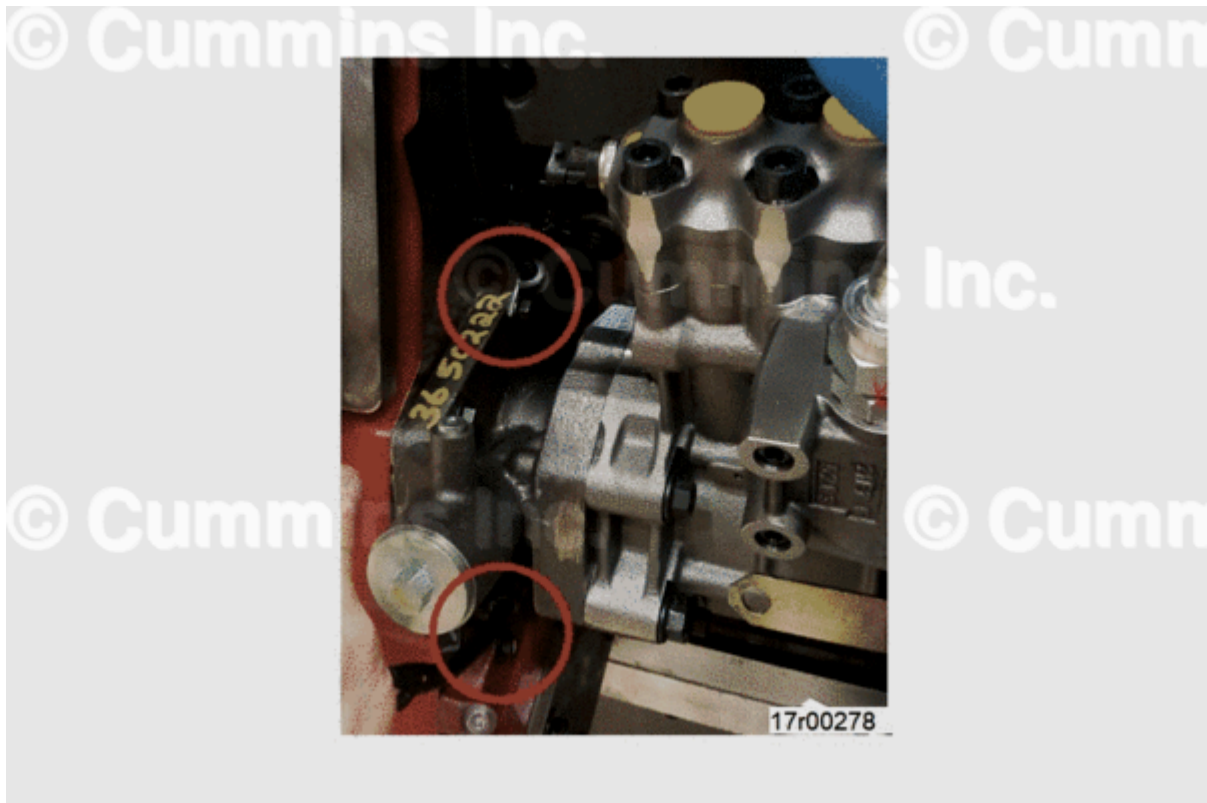

Figure 10, P Clip Locations.
12. Install two new p-clips with capscrews to aftercooler bolt holes in an inboard orientation. Verify wiring harness is **not** interfering with surrounding components. See Figure 10 above.